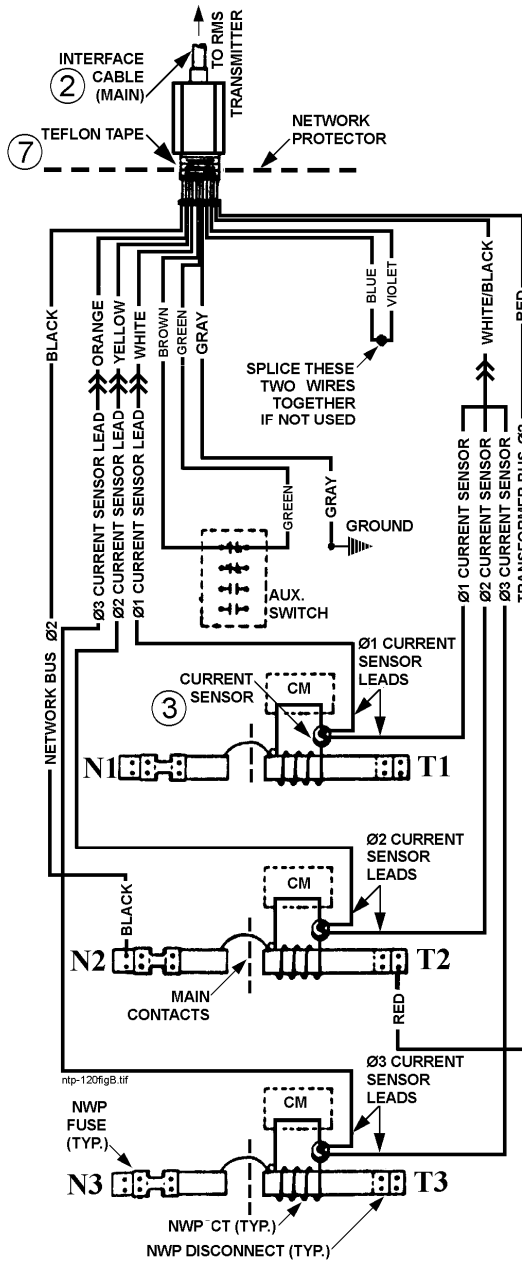

FIGURE 1.
- A. On all pre-1960 Westinghouse network protectors, installation of a microswitch, mounted on the left-hand arc-shoot barriers, is required to obtain a non-used switch position for brown and green wires (see Figure 1).
- C. The loose wires must be passed through an opening in the network protector casing tapped for a 1/2-inch NPT so that the seal is maintained properly. The 12 color-coded wires entering the network protector are connected as follows (see Figure 1):